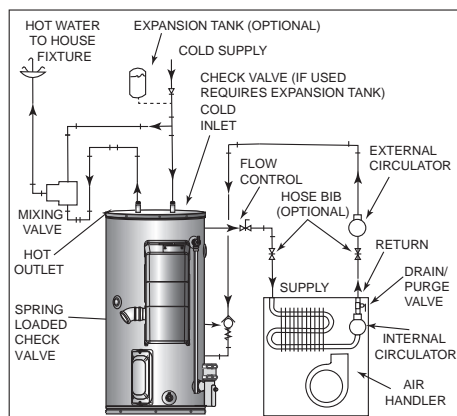
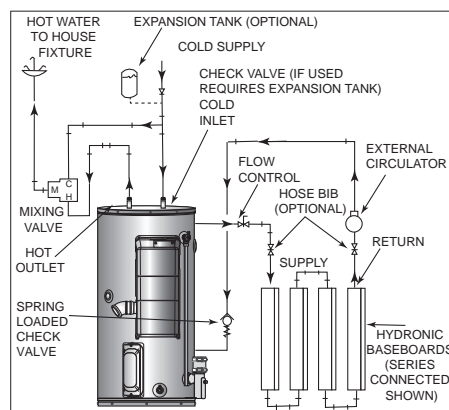

Figure 50. Typical Combo Heating Configuration
Figure 51. Typical Combo Heating with Hydronic Baseboards
9. “Combo” Heating Systems require higher water temperatures than other applications. When the system is used to supply water for Combo Heating applications, a means, such as Thermostatic Mixing Valves at each point-of-use, must be installed to temper the water in order to reduce scald hazard potential. See *Figure 50* and *Figure 51*.
- A. A fan coil/air handler. See *Figure 50* (page 39).
B. A hydronic baseboard (finned tube) loop/In floor heating. See *Figure 51* (page 39).